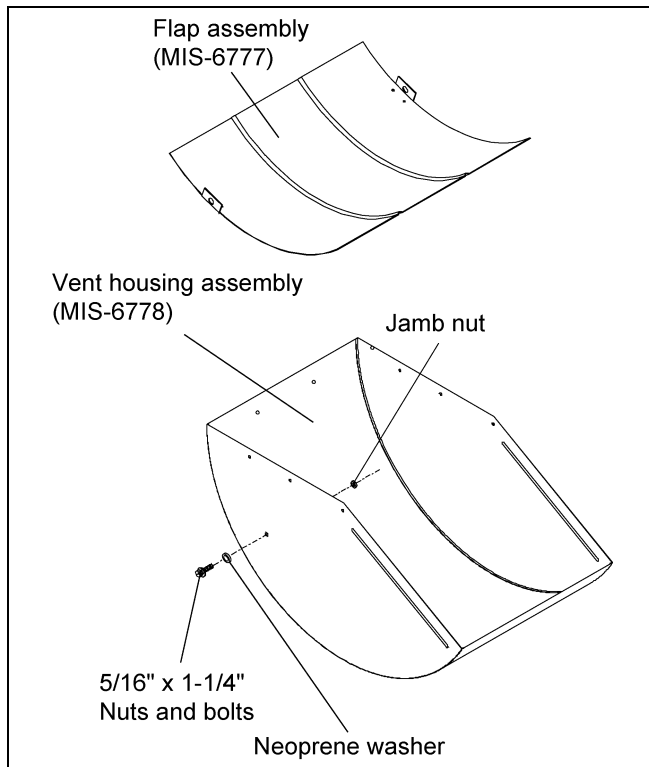
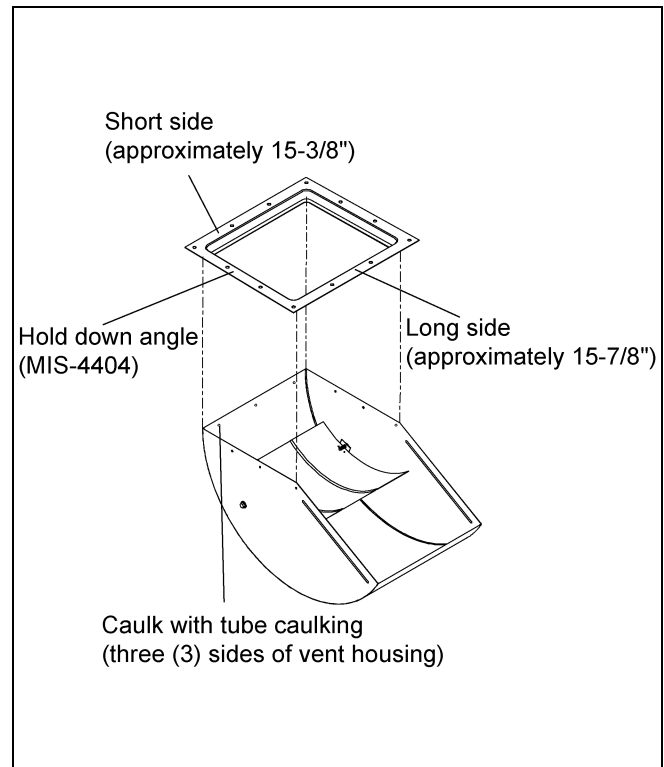
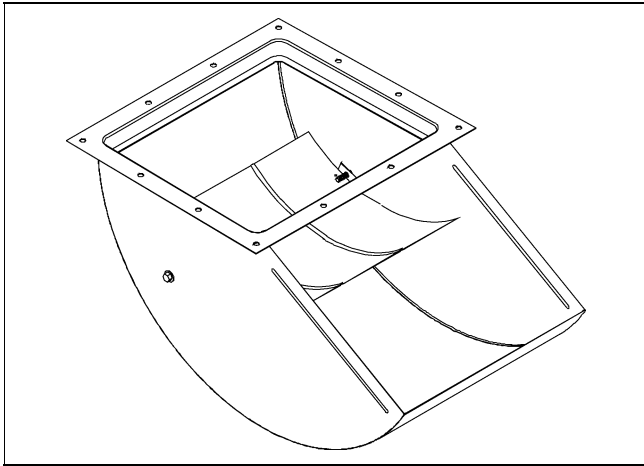
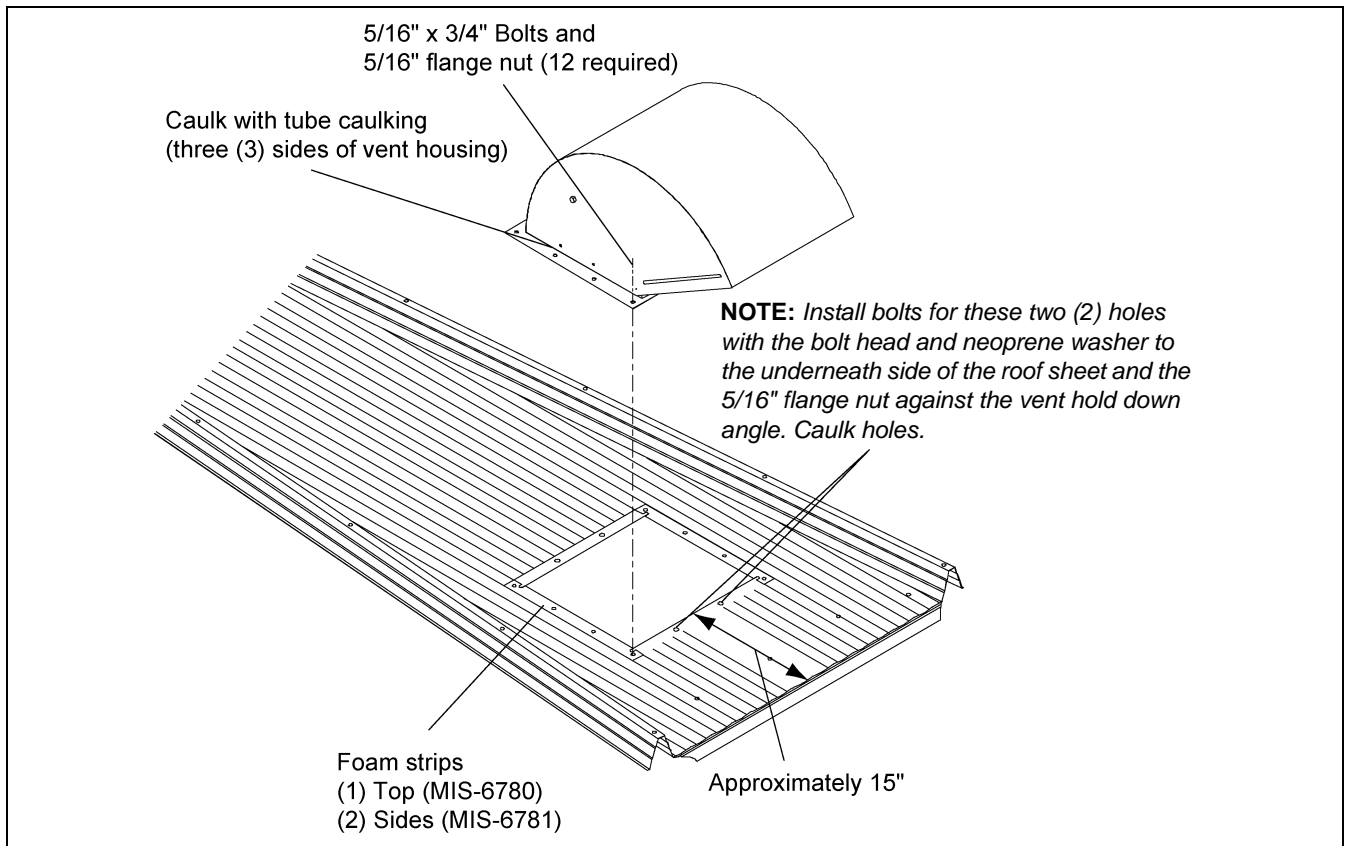

Figure 1
Figure 2
Figure 3
Figure 5
The following instructions are for assembling and installing the auto-vent. First, check the packing list to ensure all components have been shipped. The unit is easiest assembled in the **upside down position** as shown in Figure 1. Roof vent location should be as shown in Figure 5.
2. Turn one (1) roof vent housing (MIS-6778) upside down. (See Figure 1.)
3. Insert 5/16" x 1-1/4" bin bolt with neoprene washer through hole in the side of roof vent housing. Place jamb nut onto the bolt and tighten. (See Figure 1.)
6. Apply a bead of tube caulking around three (3) housing sides of the roof vent where it meets the hold down angle.
7. Place hold down angle (MIS-4404) on the assembled roof vent. The wide end of the hold down angle must face vent discharge. Once aligned, screw nine (9) #10 self-drilling (S-280) screws through the roof housing and into the hold down angle. (See Figure 2 and Figure 3.)
8. If the roof sheet does not have a prepunched hole for the roof vent, a hole must be cut. The cut hole should match the roof vent. The hole inside edge should be approximately 15" from the eave. (See Figure 5.)